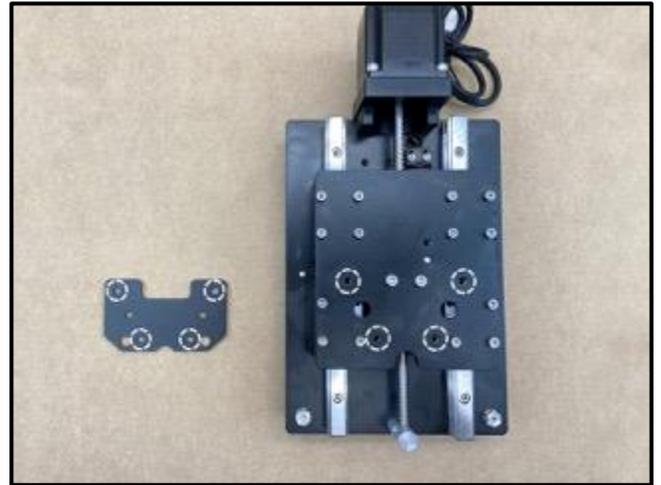

Figure 3-9
Of the four (4) mounting holes that fix the tramming plate to the Z-Plus (see **Figure 3-9**) one is 0.75mm smaller than the other three. The smallest hole is a fixed point around which the plate can be adjusted by +/- 0.375mm left or right. This allows you to get the tramming plate and the router mount perfectly parallel with the X-Axis.